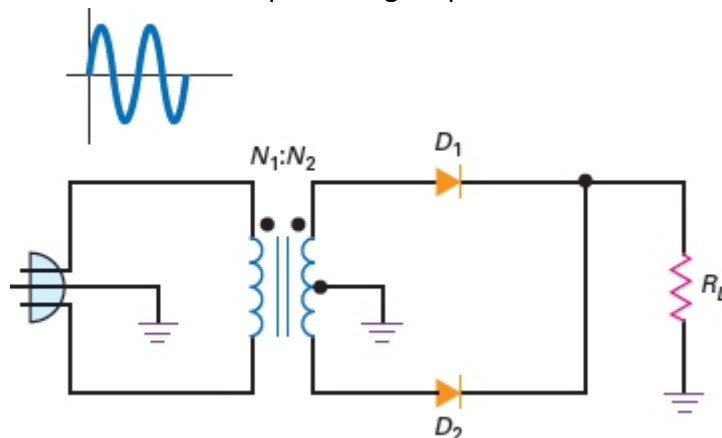

Figure-40 Full-wave rectifier
- Figure-40 shows a full-wave rectifier circuit. Notice the grounded center tap on the secondary winding. The full-wave rectifier is equivalent to two half-wave rectifiers. Because of the center tap, each of these rectifiers has an input voltage equal to half the secondary voltage.